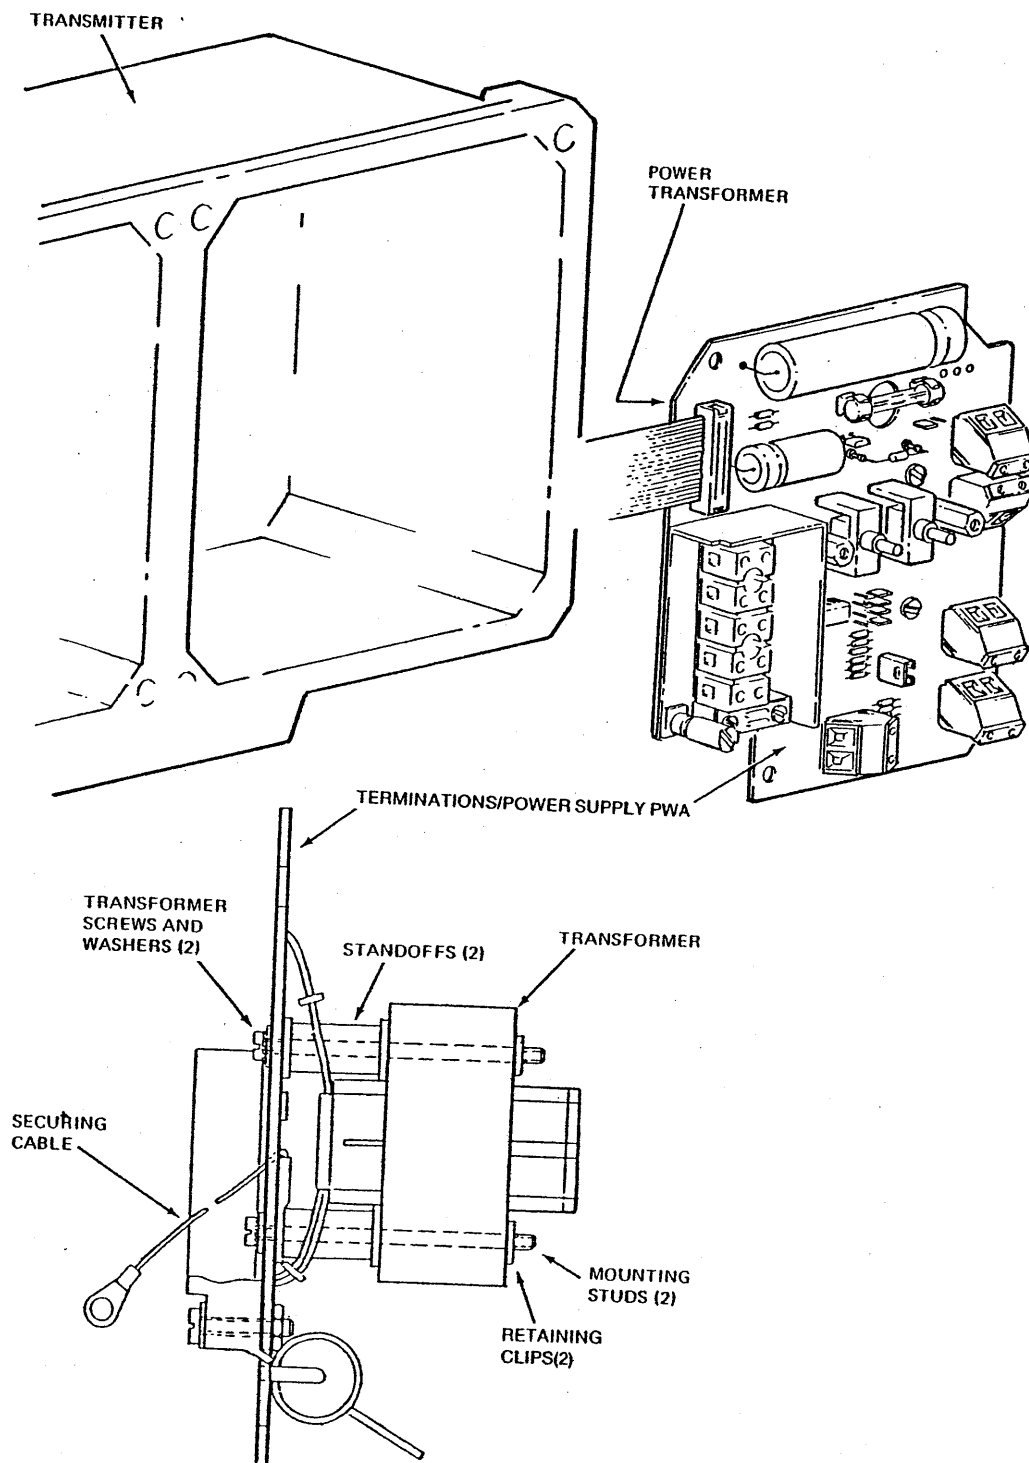

Figure 12. New Terminations/Power Supply PWA
14. Retrieve the new terminations/power supply PWA (Figure 12).